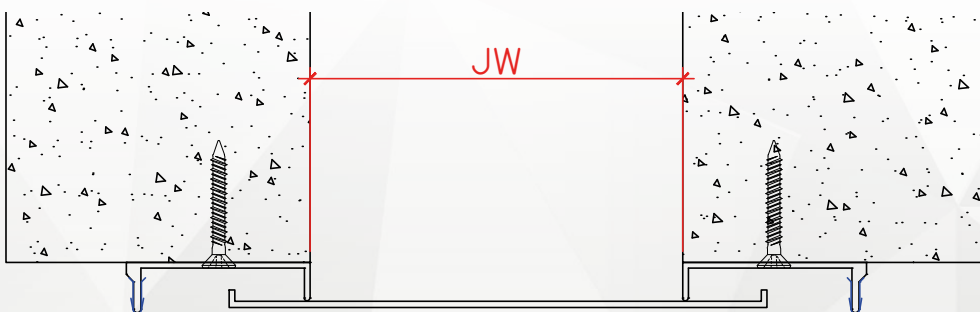

Figure 4.
15. Select the center plate, remove any protective tape from its exposed surface, and place it in position over the installed base members (see Figure 4). Ensure that the center plate is properly centered over the joint. Ensure that the installation is plumb, level, and properly aligned.